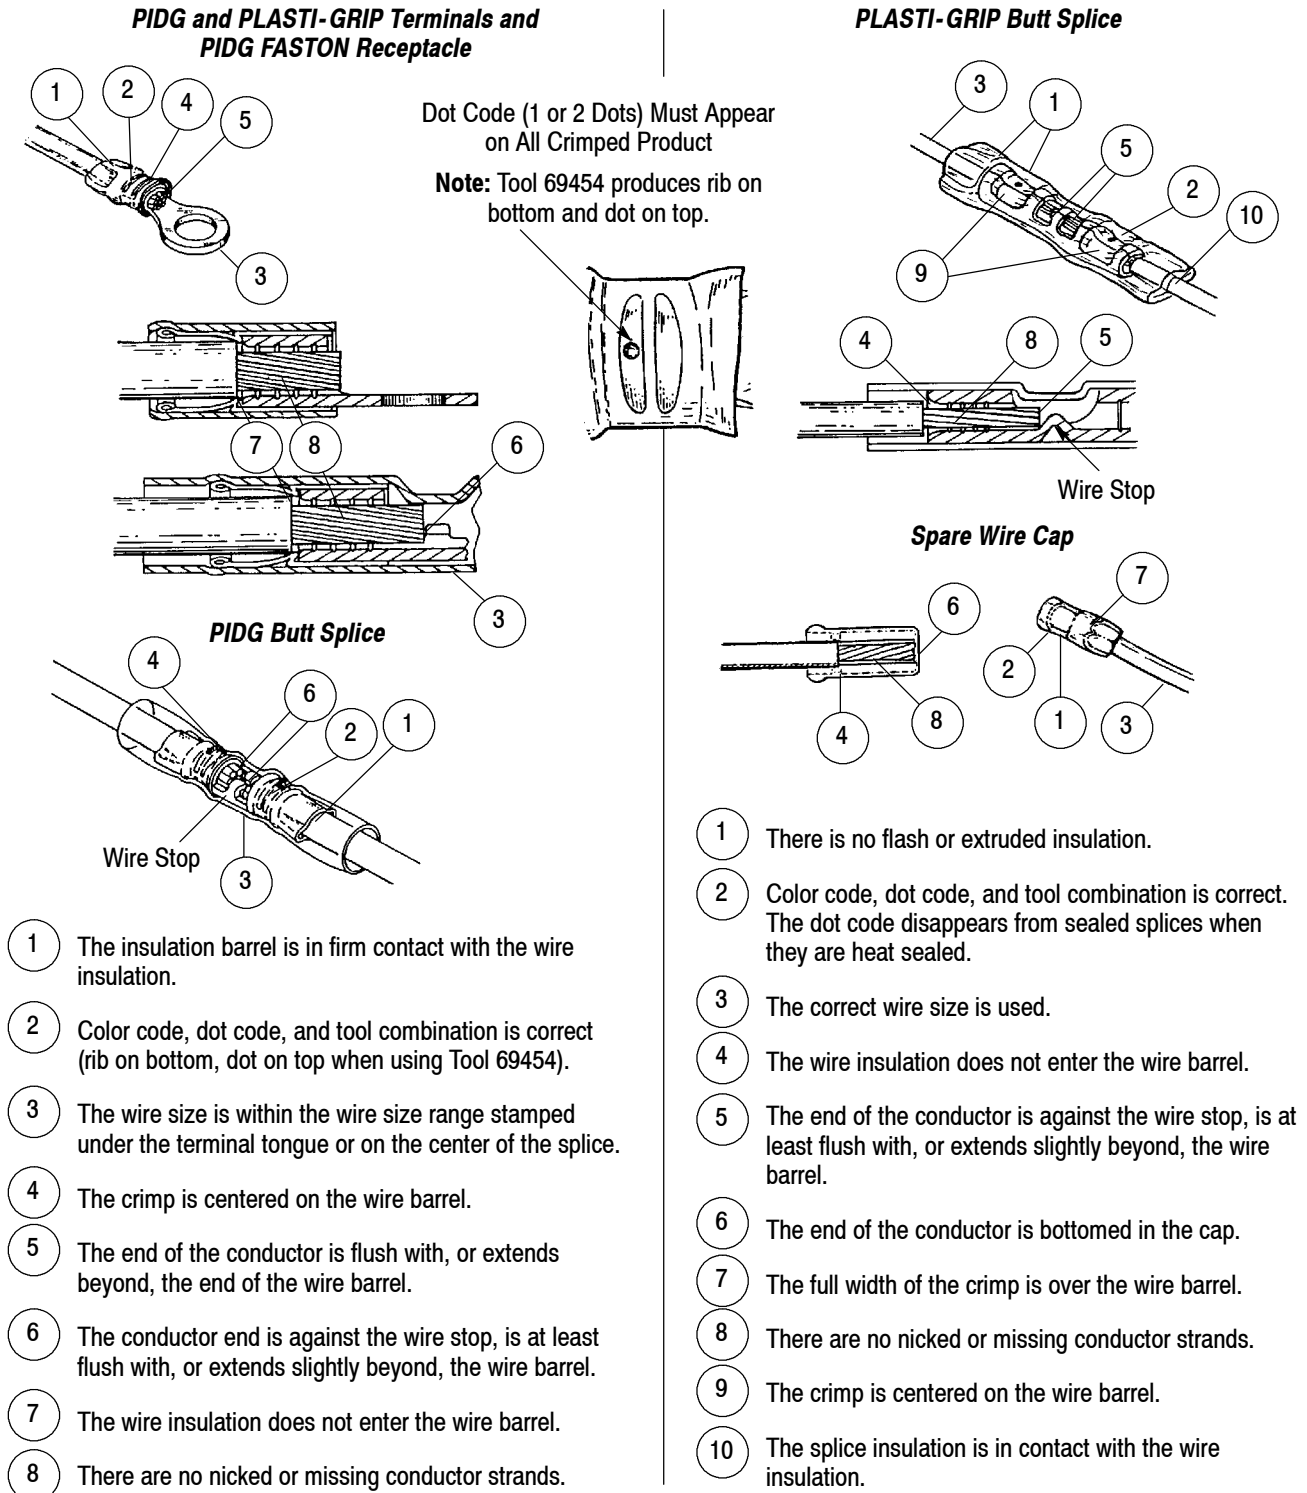

Figure 7
- Inspect the crimped product according to Figure 7. Product not meeting these conditions should NOT be used. If the wire insulation grip is not satisfactory, refer to Section 4 to adjust the grip using the insulation crimp adjustment pins.
9. Inspect crimped product according to Figure 7. Product not meeting these conditions should NOT be used.